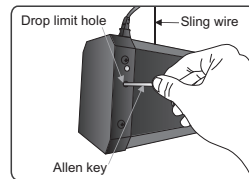

Figure 24
2. Retract drop adjusting. Take off the knob from the whole and then use the provided allen key to adjust. If it goes clockwise, the housing would lower down, to adjust anticlockwise the housing would raise. (Figure 24)